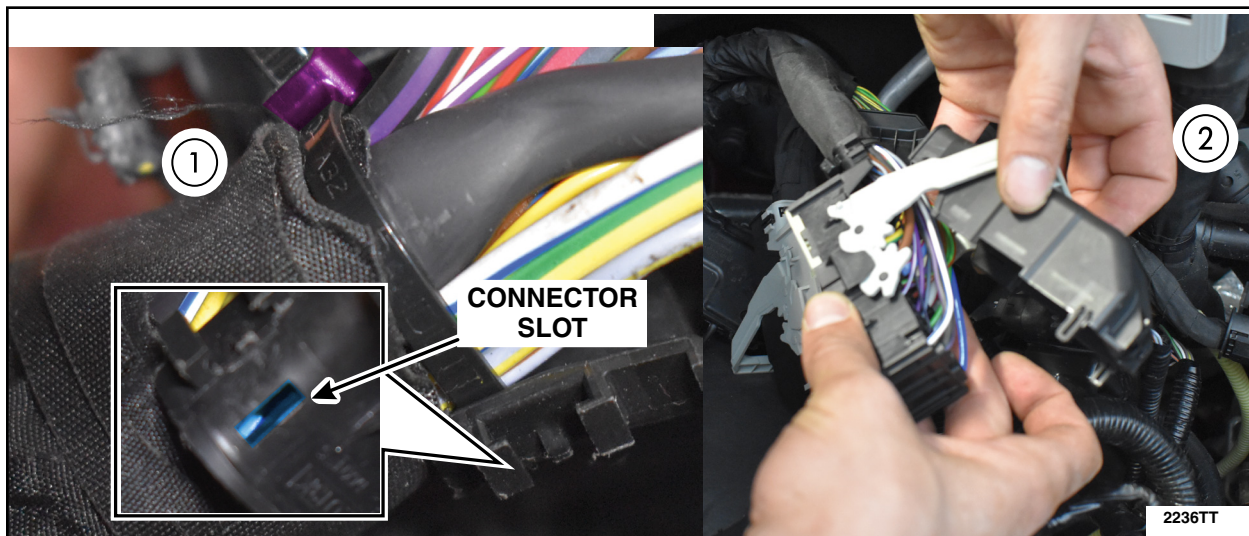

FIGURE 51
61. Secure wire covering and wire bundle with a zip tie. Clip back shell into place on connector C1035B. See Figure 51.